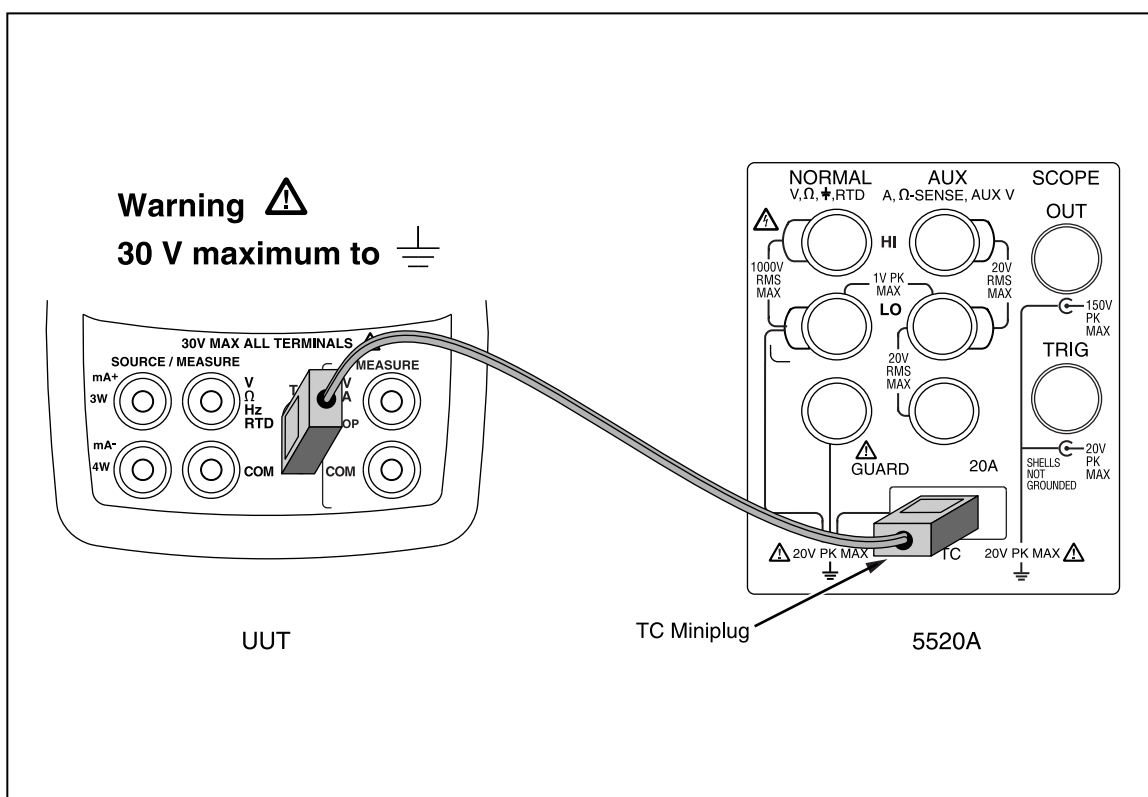

Figure 10. Lower Display Thermocouple Test Connections
1. Remove the test leads from the UUT terminals; then connect a Type-J thermocouple lead between the TC jack on the UUT and the TC jack on the 5520A, as shown in Figure 10.